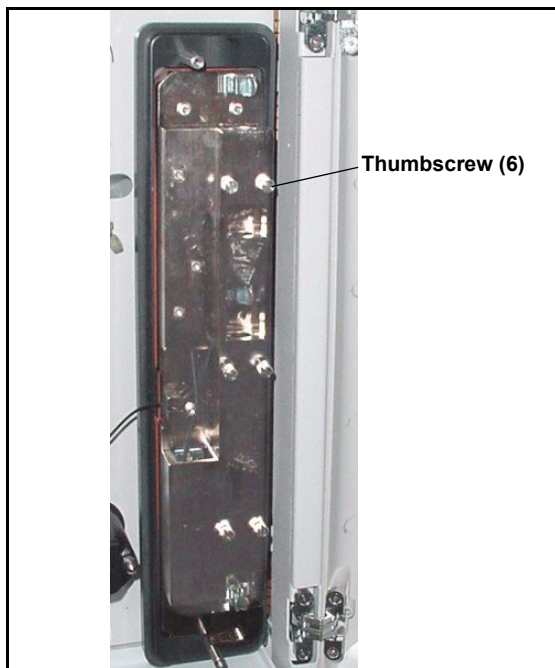

Figure 18. ICS-1000 Column Heater Cover Removed
4. Unscrew the six thumbscrews on the top metal plate (see Figure 18) and remove the plate.